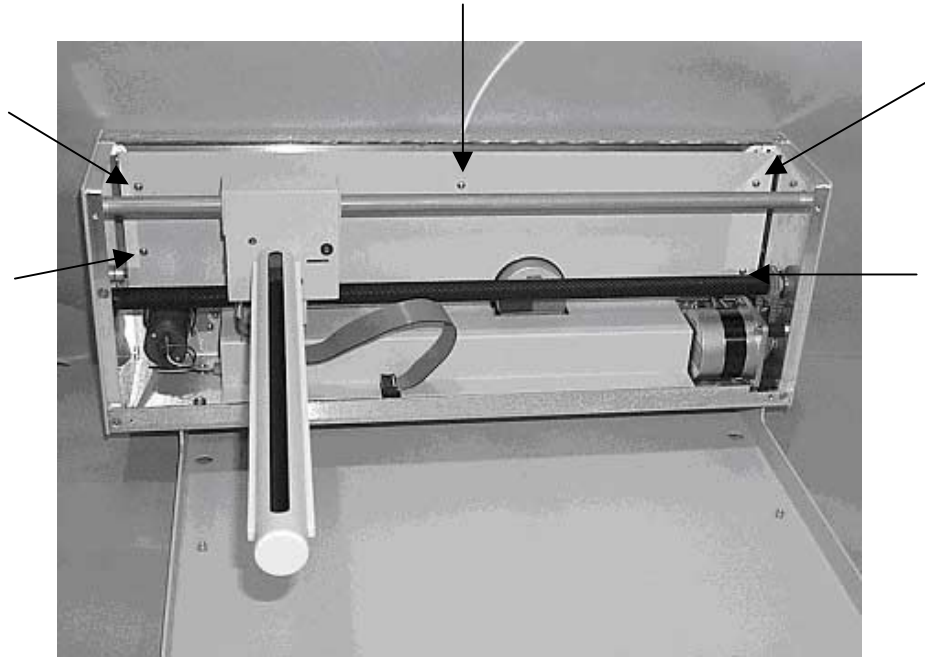

Figure 1-9. View of inner shield inside the ASX-510.
7. The five screws that hold the inner shield will have to be removed. Move the Y-axis assembly all the way to the left. See Figure 1-9.